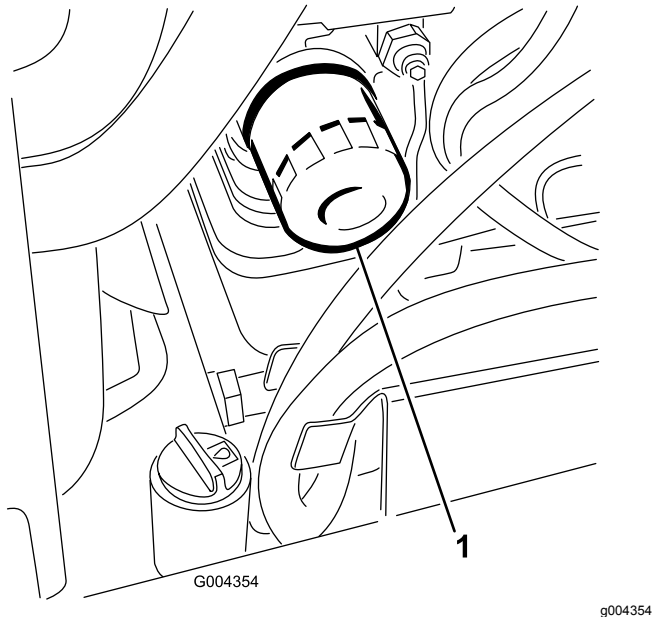

Figure 34
4. Remove the old filter (Figure 34) and wipe the surface of the filter adapter gasket.